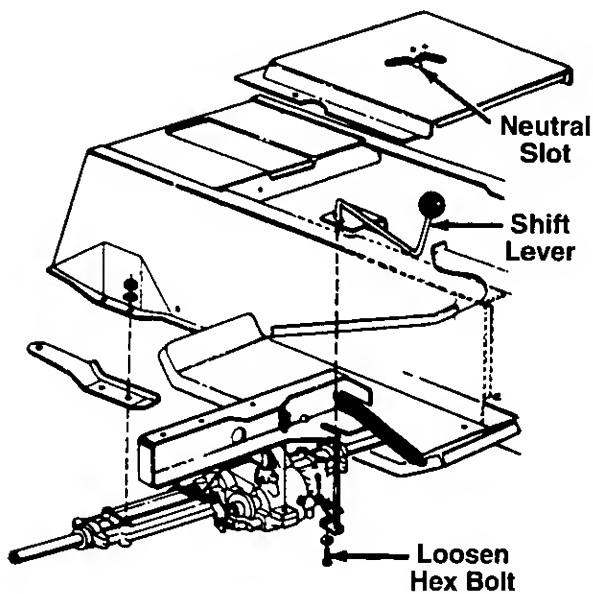

FIGURE 12.
2. Loosen the bolt which secures the shift lever assembly to the shift lever link. See figure 12.
3. Place the shift lever in the neutral slot. See figure 12.